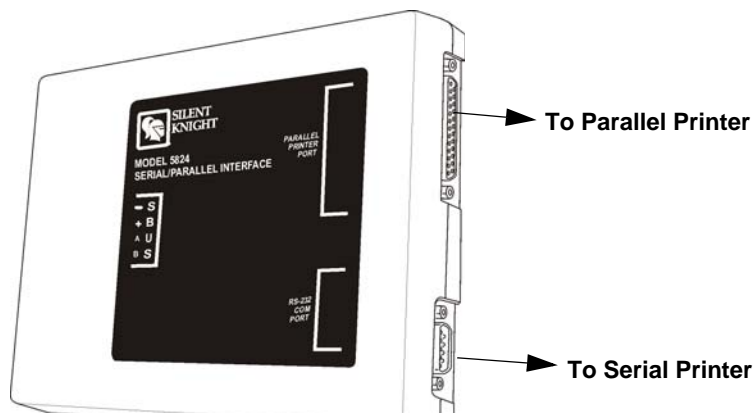

Figure 4-17 Printer Connection
5. Connect a printer to the 5824 as shown in Figure 4-17.